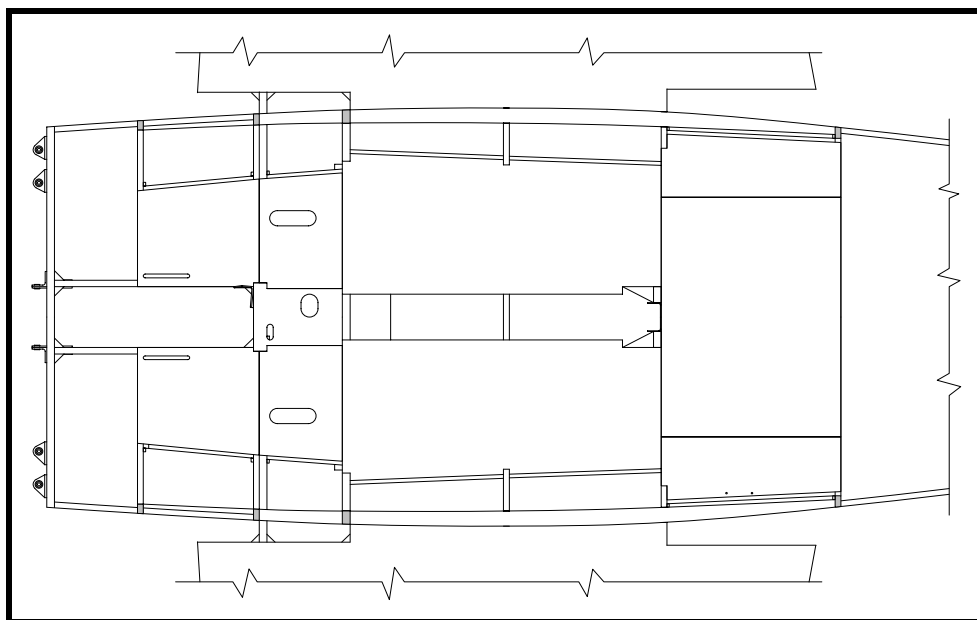

Figure 26
- ❑ Install the 10x15 spruce strips on the aft outboard ends of the luggage compartment floor. These strips are shown on Drawing No. 315. These strips are permanently glued in place and provide a “lip” for the rear cockpit bulkhead. See Figure 26.